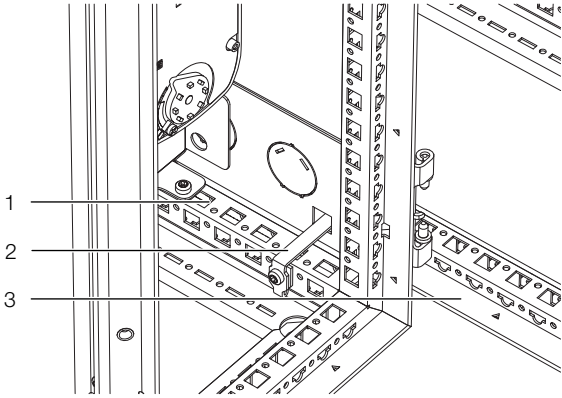

Fig. 35: Connection element in the rear area VX/VX
- Place a connection element (fig. 35, item 2) between the frames of the LCP Inline Protruding of the server enclosure in the rear area.